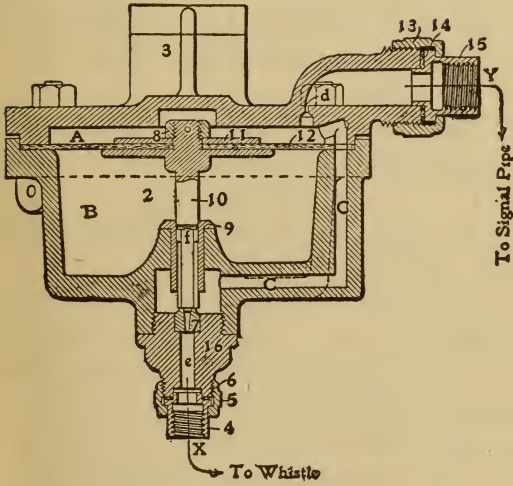

Fig. 47.
A. The signal valve is shown by Fig. 47. It is divided into two compartments, A and B, which are separated by diaphragm 12, to which is attached the stem 10; the lower end of stem 10 forms an air tight seat on the bushing 7. This stem 10 fits bushing 9 snugly for a short distance below its upper end to where a peripheral groove is cut in the stem. This fit in bushing 9 is not tight, but sufficiently so to allow air to feed through it very slowly. Below this groove the stem is three-sided. The signal pipe air enters the signal valve at Y, passing through the small port d into chamber A, thence through port C and slowly into chamber B until the pressure in both chambers A and B are equalized. Any sudden reduction of pressure in the signal line, such as the conductor signaling the engineer, or a parted train, reduces the pressure in chamber A, and the unreduced pressure in chamber B forces the
A. In the signal valve too loose a fit between stem 10 and bushing 9 (Fig. 47), or a baggy diaphragm or one with a hole in it or the small port d being plugged up, dirty strainers or an improperly adjusted whistle bell, and too slow a reduction made in the signal line.
Q. How would a hole in the diaphragm 12, Fig. 47, prevent the whistle from sounding?
Q. If the small port d, Fig. 47, is plugged up, how will it prevent the whistle from sounding?
A. Dirt on the seat at the bottom of stem 10, Fig. 47.
A. The friction of the air passing through the pipes tends to decrease the suddenness of the reduction, especially if the train be a long one, which allows too much time for the air to pass by bushing 9 and piston 10, Fig. 47, thereby permitting chambers A and B to equalize without raising stem 10.
A. The fit between bushing 9 and stem 10, Fig. 47, is too loose and there is main reservoir pressure on the signal line. When a reduction is made it starts the signal valve to operate and the reducer cannot feed air into the signal line properly to cause the signal valve to close until the pressure in the signal line is forty pounds or less. Meanwhile the pressure in chambers A and B fluctuate, which causes the diaphragm to raise and lower several times which uncovers port e of the signal valve permitting air to escape to the whistle.